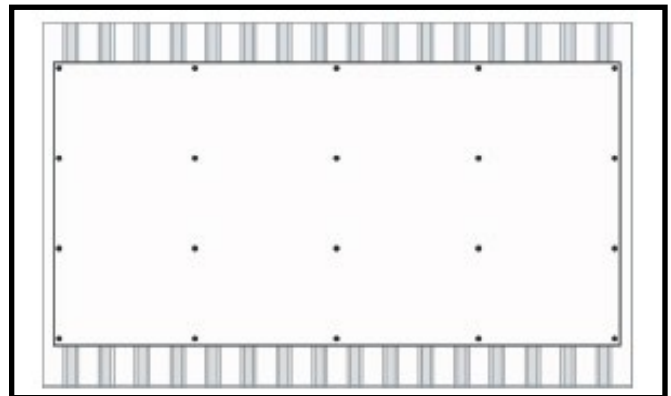

FIGURE 4
**3.1.4.2 Fasteners:** Proprietary ResinDek® screws shall be used to attach the panels to the metal decking. The ResinDek® screw is a No.10-gauge screw, 2 inches (51 mm) long, with a number 2 square drive head. The fasteners have self-piercing points, a zinc coating, and are available in gray or beige colors. A minimum of 20 fasteners (24 for 10-foot panels) shall be equally spaced throughout each 4-foot x 8-foot panel as shown in Figure 4 of this report. Edge fasteners shall be located a minimum of one inch (25.4 mm) from the panel edges.